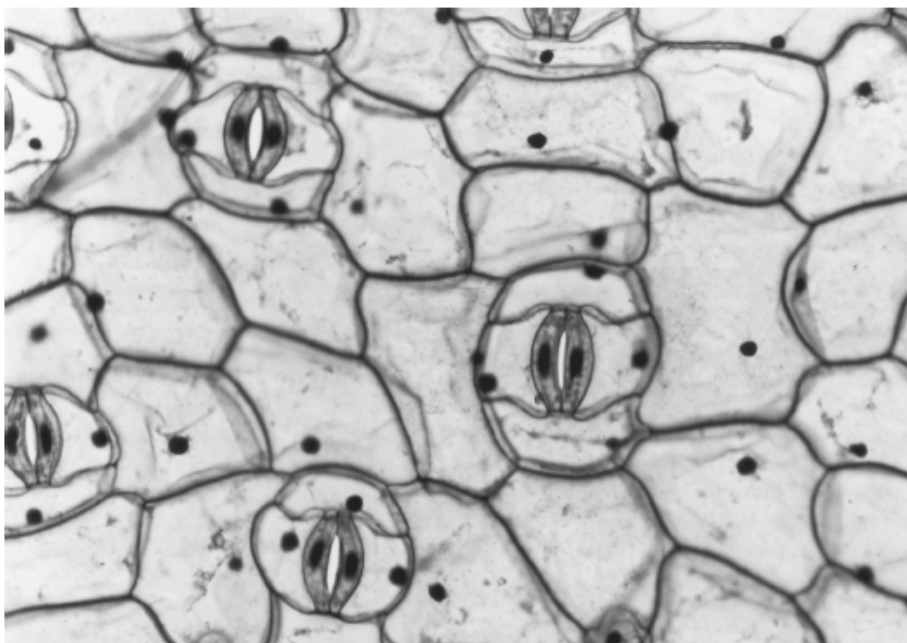

Fig. 3.1
- (b) Fig. 3.1 is a photomicrograph showing the epidermis of a plant.
The actual area of the epidermis visible in the photomicrograph in Fig. 3.1 is 0.04 mm^2 .
The leaf from which Fig. 3.1 is taken has a **total surface area** of 2000 mm^2 .
- (i) Use Fig. 3.1 to estimate the total number of stomata on the leaf.